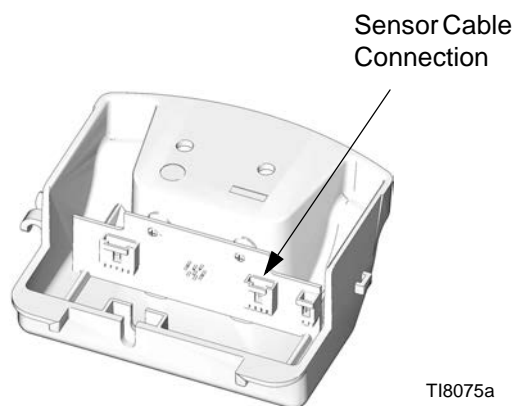

FIG. 15. Sensor Cable Connection
- a. **DataTrak Models:** Remove the two screws (135). Carefully remove the DataTrak module (131), see page 15. Disconnect the runaway solenoid and sensor cables from the module board. Remove the two screws (134) and carefully slide the housing (132) off the air valve.
- b. **Linear Sensor Models:** Remove the screws (134) and carefully slide the housing (132) off the air valve. Disconnect the sensor cable from the circuit board. See FIG. 15 on page 29.
10. Reinstall the muffler (15). Fully tighten the screws (43) against the muffler.
11. Reinstall the outer valve cover (47).
- a. **DataTrak Models:** Carefully slide the housing (132) onto the air valve. Thread the screws (134) in by hand, then torque to 100 in-lb (11.3 N•m). Reattach the solenoid and sensor cables to the DataTrak module (131), see page 15. Carefully slide the module back into the housing (132). Reinstall the two screws (135).
- b. **Linear Sensor Models:** Reconnect the sensor cable to the circuit board. See FIG. 15, page 29. Carefully slide the housing (132) onto the air valve. Thread the screws (134) in by hand, then torque to 100 in-lb (11.3 N•m).
13. Reinstall the top cover (30).
5. Remove the screws (134) and carefully slide the housing (132) off the air valve. Disconnect the sensor cable from the circuit board. See FIG. 15.
6. Thread the cable back through the hole (H) in the side of the adapter (33) and extend it out the top of the adapter.
7. Unscrew the adapter (33) and sensor (35). Lift the sensor straight up out of the air motor.
8. Apply thread adhesive to the new sensor housing. Screw the sensor (35) into the top cap (1). Torque to 30-36 ft-lb (40.6-48.8 N•m).
9. Apply thread adhesive to the adapter (33). Extend the sensor cable straight up out the top of the adapter, then screw the adapter into the top cap (1). Torque to 30-36 ft-lb (40.6-48.8 N•m).
10. Thread the sensor cable through the hole (H) in the side of the adapter, and reconnect it to the circuit board. See FIG. 15, page 29. Carefully slide the housing (132) onto the air valve. Thread the screws (134) in by hand, then torque to 100 in-lb (11.3 N•m).
11. Apply thread adhesive to the lift ring (21). Hold the adapter (33) with a wrench to keep it from turning, and torque the lift ring to 30-36 ft-lb (40.6-48.8 N•m).
12. Reinstall the top cover (30).